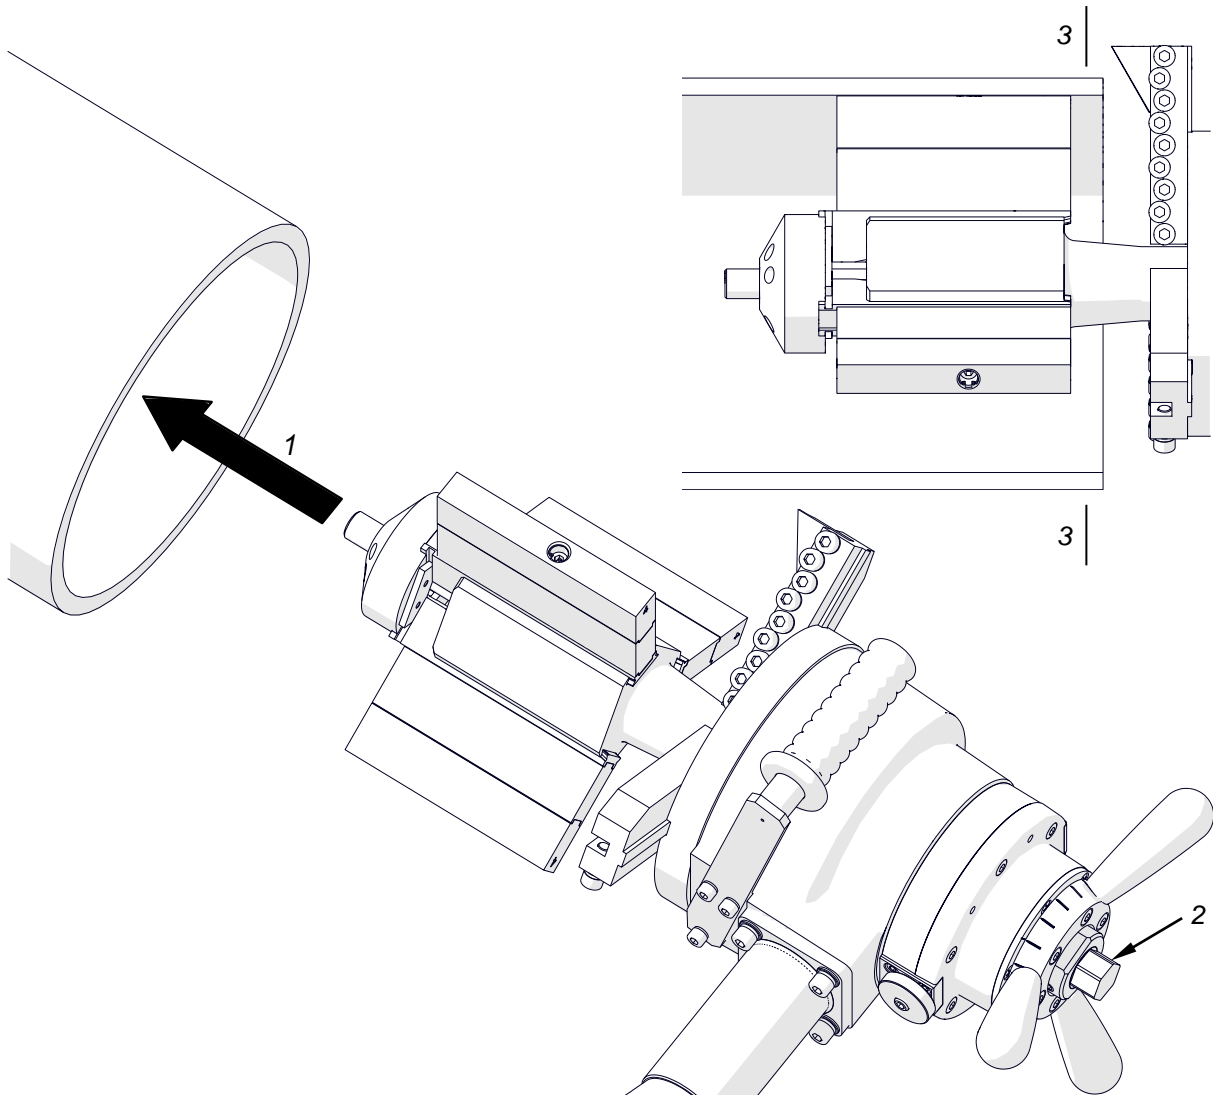

Fig. 5. Clamping the machine into the pipe
Insert the machine into the pipe (1, Fig. 5) so that the tool bits are placed at least 3 mm (0.12") from the pipe end. Then, use the 24 mm socket wrench to rotate the draw nut (2) to the right to expand the jaw blocks and clamp the machine into the pipe. The jaw blocks must be installed beyond the end preparation location (3).